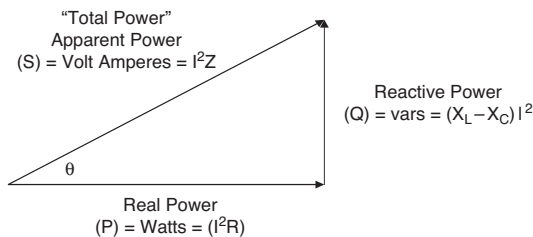

Figure 1. Power Factor Triangle (Lagging)
Power Factor (PF) is defined as the ratio of the real power (P) to apparent power (S), or the cosine (for pure sine wave for both current and voltage) that represents the phase angle between the current and voltage waveforms (see Figure 1). The power factor can vary between 0 and 1, and can be either inductive (lagging, pointing up) or capacitive (leading, pointing down). In order to reduce an inductive lag, capacitors are added until PF equals 1. When the current and voltage waveforms are in phase, the power factor is 1 ($\cos(0^\circ) = 1$). The whole purpose of making the power factor equal to one is to make the circuit look purely resistive (apparent power equal to real power).
Real power (watts) produces real work; this is the energy transfer component (example electricity-to-motor rpm). Reactive power is the power required to produce the magnetic fields (lost power) to enable the real work to be done, where apparent power is considered the total power that the power company supplies, as shown in Figure 1. This total power is the power supplied through the power mains to produce the required amount of real power.